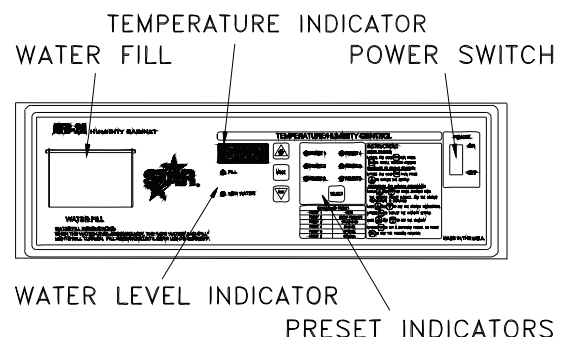

FIGURE 2
The operating controls are located above the door on the side of the unit next to the water fill (See Figure 2).
4. Monitor cabinet temperature via the digital thermometer on the control (See Figure 2).
5. Periodically monitor water level by indicator on control panel (See Figure 2).